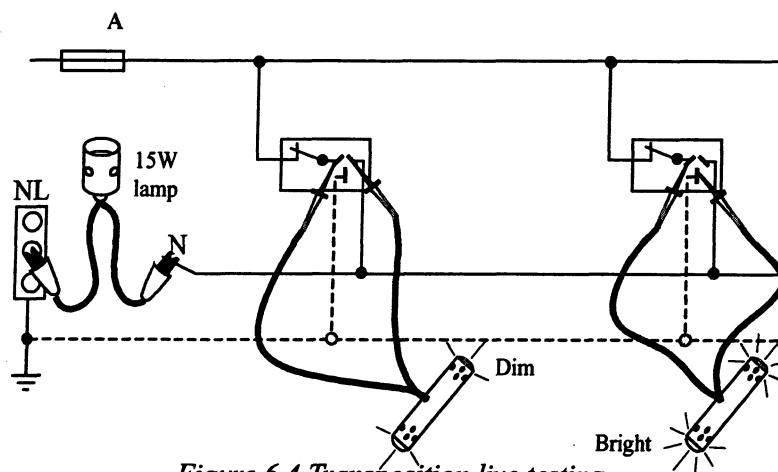

Figure 6.4 Transposition live testing
- (A) circuit protection devices will operate
- (B) circuit will appear to operate normally but is potentially dangerous
- (C) earth resistance exceeds the required value
- (D) the insulation resistance between active and neutral is below 1 megohm.
- (A) an ohmmeter
- (B) 15 W lamp and series test lamp
- (C) continuity tester
- (D) insulation resistance tester.
10. Using the testing arrangements shown in Figure 6.4 a 'dim' test lamp between active and earth terminals indicates:
- (A) incorrect active and neutral polarity
- (B) open circuited neutral
- (C) incorrect active and earth conductors
- (D) transposition of neutral and earthing conductors.